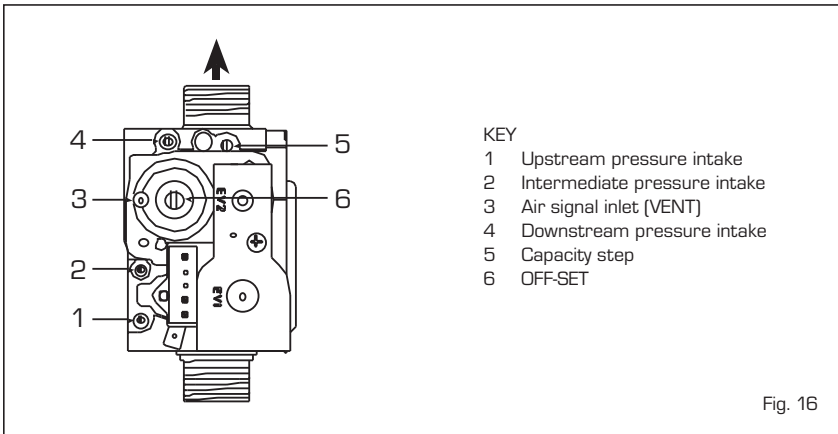

Fig. 16
The boiler is supplied as standard with a gas valve, model SIT 848 SIGMA (Fig. 16).
- 3) Identify the CO₂ value at max power; adjust using the shutter (5 fig. 16):
- 5) Identify the CO₂ value at min power; adjust using the OFF-SET regulation screw (6 fig. 16):